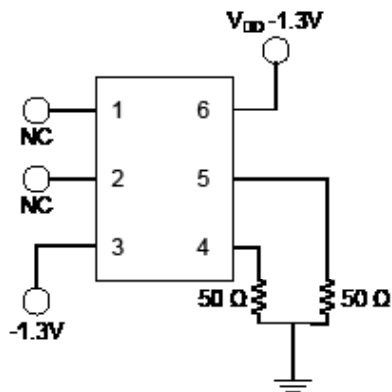
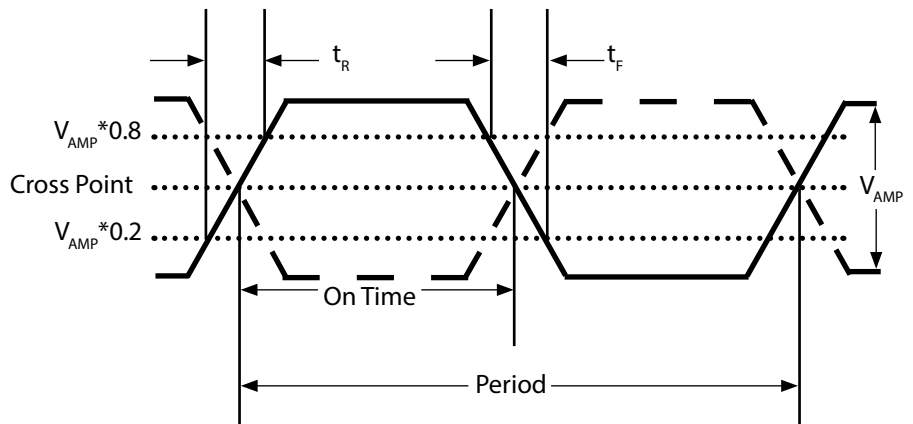

Figure 1.
Figure 2.
2. Figure 1 defines the test circuit and Figure 2 defines these parameters.
2. Figure 2 defines these parameters and Figure 3 defines the test circuit.